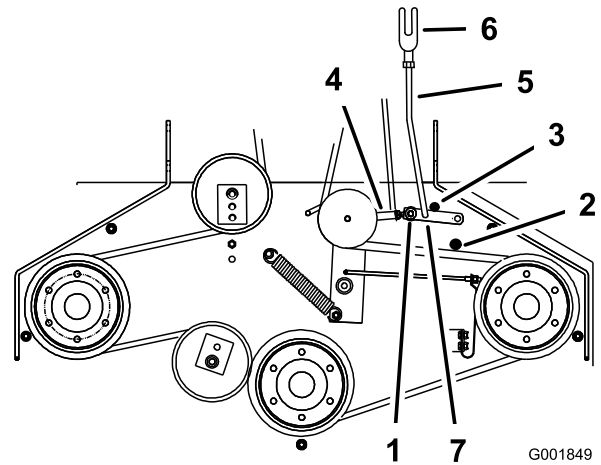

Figure 50
8. To adjust the assist arm link, remove the hairpin cotter pin from the assist arm (Figure 50).
11. Install the assist arm link into the assist arm and secure it with the hairpin cotter pin (Figure 50).